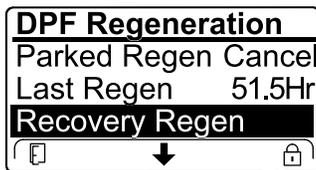

Figure 78
- If the engine computer has not requested a recovery regeneration and you scroll down to the RECOVERY REGEN option, the recovery regeneration locks and the lock icon (Figure 78) appears in the lower right corner of the InfoCenter.